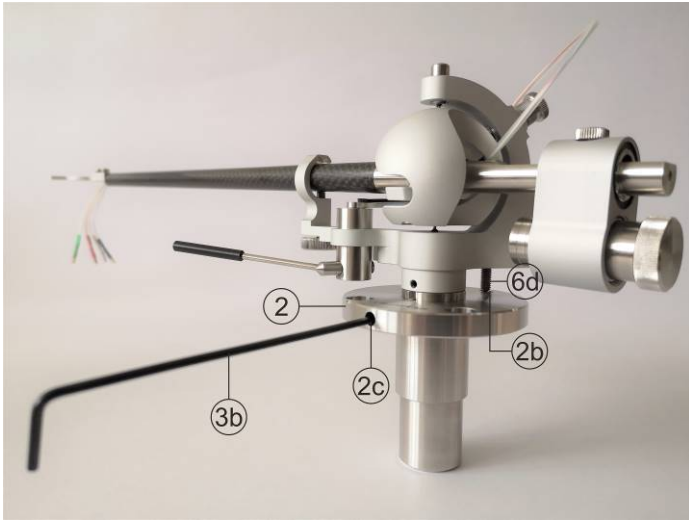

Figure 16
- a) VTA adjustment screw [6d] must be screwed in and rest in the groove [2b] in the tonearm base [2] (Figure 16)
- c) Loosen the tonearm base fixing screw [2c] with hex (allen) key [3b] (Figure 16).
- e) When VTA is adjusted fix tonearm base [2] with a fixing screw [2c] (Figure 16).